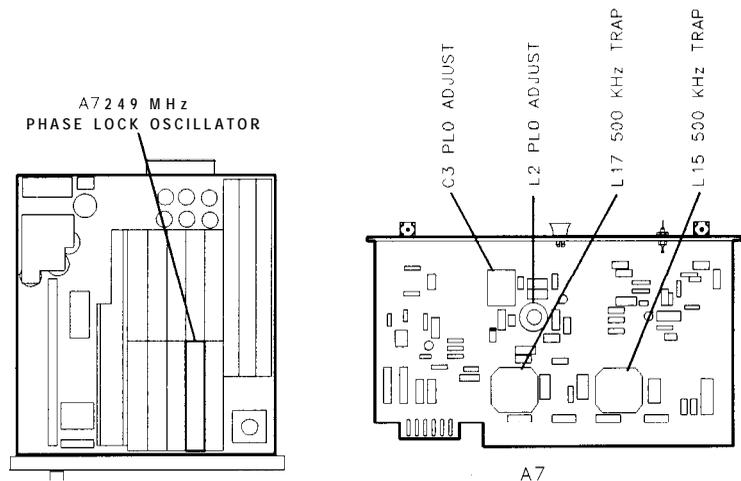

Figure 3-60.
5. Adjust A7 PLO A7C3 for DVM indication between +5.2 V dc and +6.0 V dc. See Figure 3-60 for location of adjustment.
25. Adjust A7 500 kHz TRAP adjustments A7L15 and A7L17 to null the 500 kHz sideband displayed on the spectrum analyzer. The 500 kHz sideband should be less than -90 dBm. See Figure 3-60 for location of adjustments.